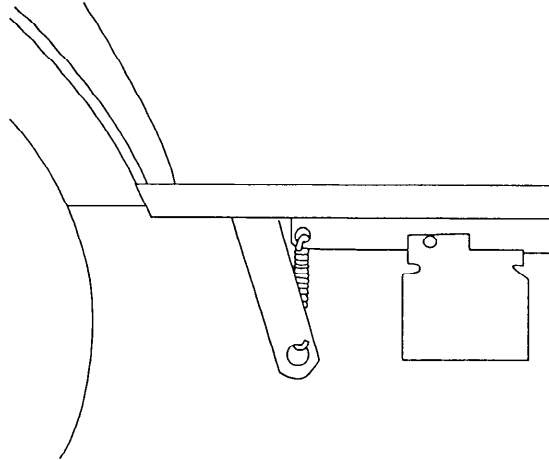

Figure 12
- If there are holes provided in the tractor frame, hook the lift links up out of the way using the four extension springs (K). See Figure 12.